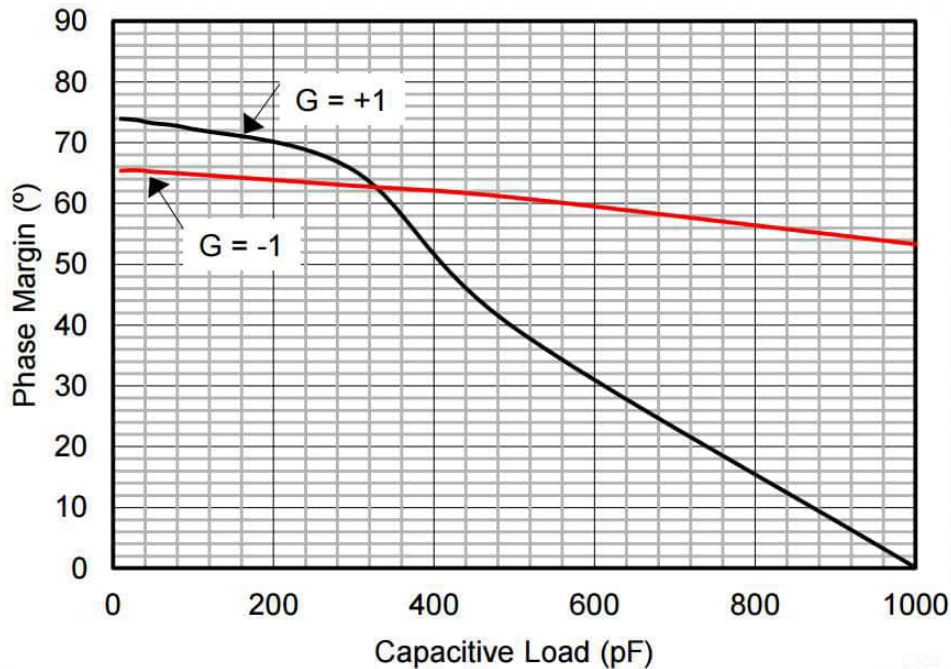

Figure 7: OPA1622 phase margin vs. capacitive load
- We designed the OPA1622 to have a low output impedance of  $5.5\Omega$  over a wide frequency range. This allows it to drive capacitive loads over  $800\text{pF}$  in a unity-gain configuration, requiring no external components for compensation. See Figure 7.